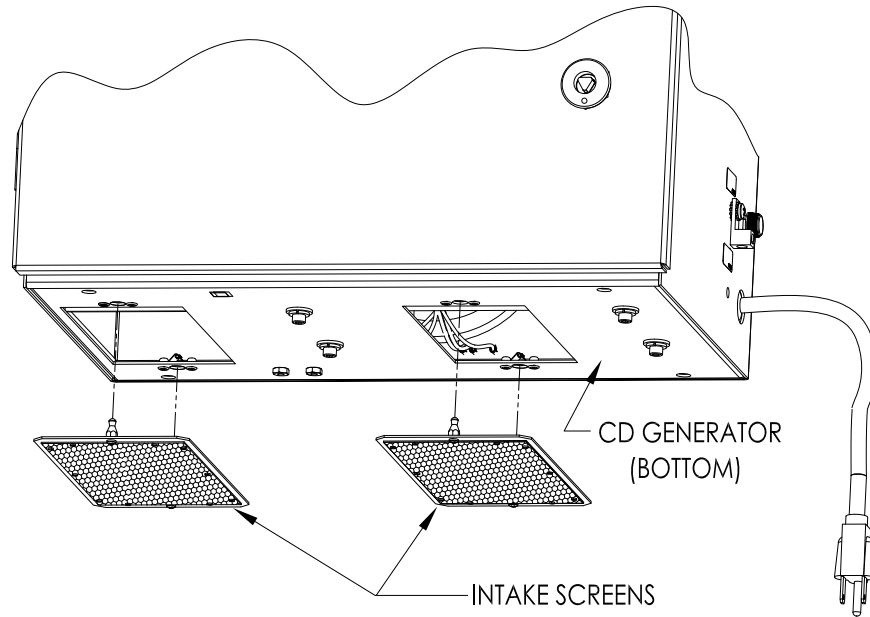

Figure 3: Intake Screen Replacement
1. **Corona Discharge (CD) Module:** The generator module consists of a high voltage electrode wrapped around a PTFE core inserted in a ceramic insulating tube. The assembly is encased in a thermally protected aluminum heat sink.
7. **Intake Screens:** Easily removable screens keep debris from entering the enclosure. *See Figure 3.*